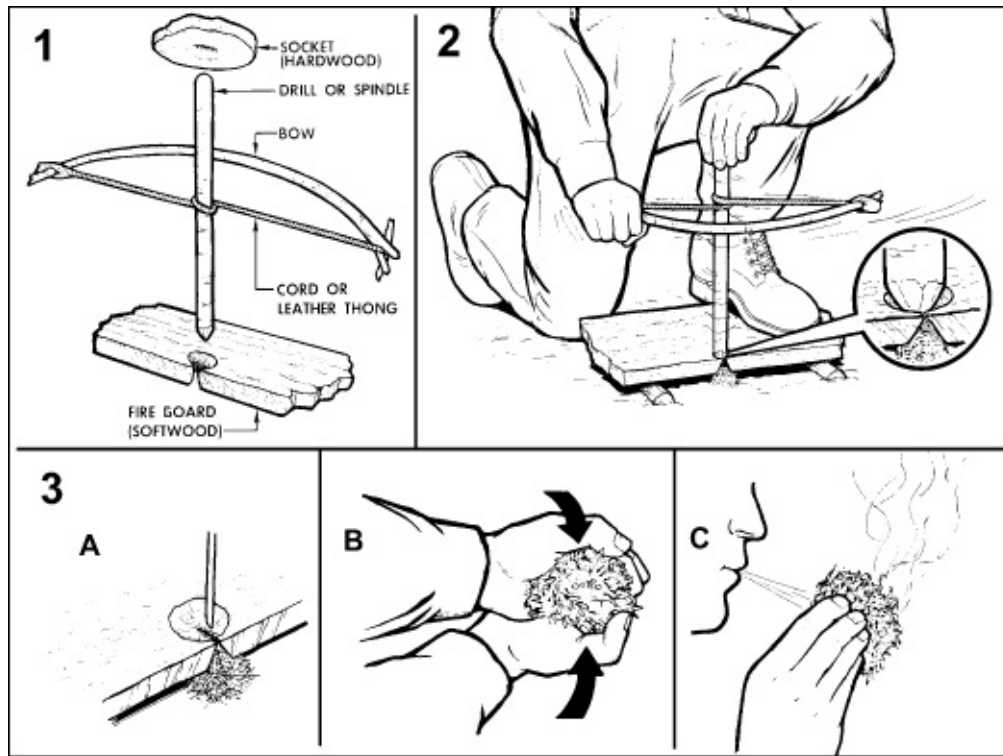

Figure 6-11. Friction method
- (1) Heat sources:
- (f) Friction method (**Figure 6-11**). Without prior training, this method is